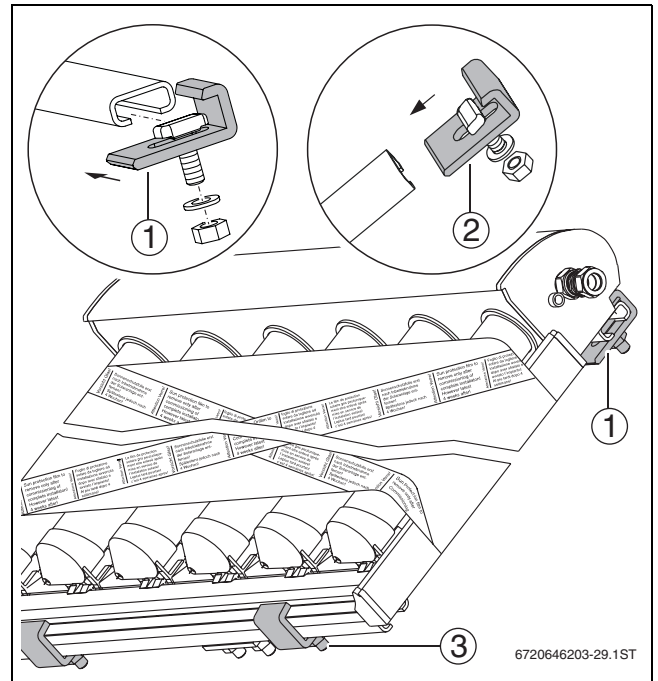

Fig. 29 Collector fastened to the horizontal rails
- ▶ Tighten upper retaining clips with a size SW17 spanner (→ Fig. 29).